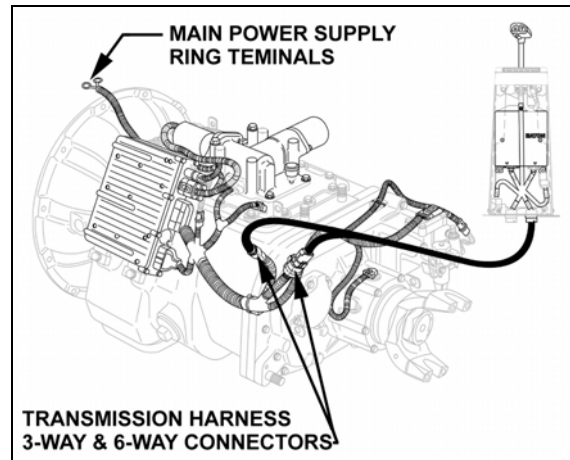

FIGURE 15: EATON TRANSMISSION CONNECTIONS
8. Disconnect main power supply ring terminals (Fig. 15).
9. Disconnect transmission harness 3-way and 6-way connectors (Fig. 15).